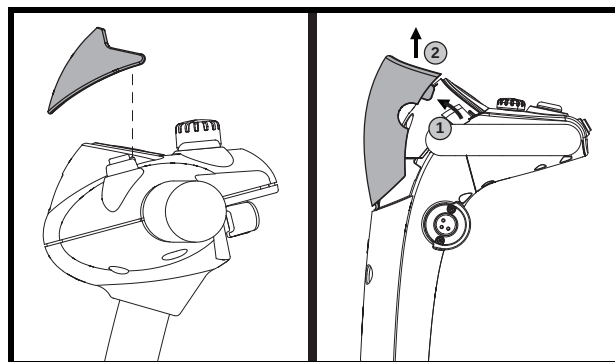

Figure 12. Tiller Console Visor
1. Gently pull the top of the visor away from the tiller console, then slowly lift it up and away from the tiller console. **See figure 12.**